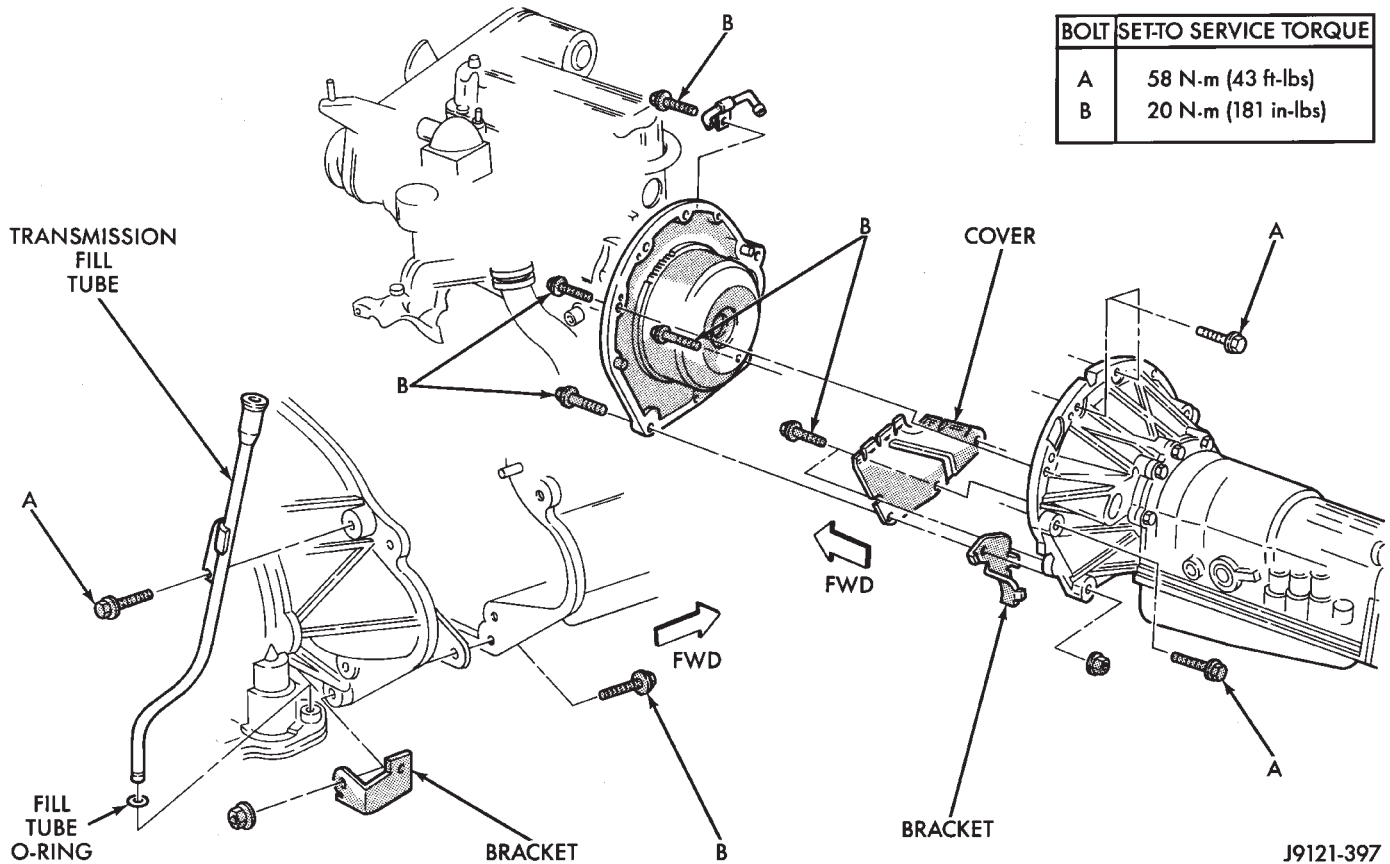

Fig. 35 Transmission Mounting
- (1) Mount transmission on transmission jack. Then secure transmission to jack with safety chains.
- (2) Lubricate converter drive hub and oil pump seal lip with transmission fluid. Then install converter. Be sure converter is fully seated in oil pump gears before proceeding. Hold converter in place with C-clamp or strap attached to converter housing.
- (3) Align and position transmission and converter on engine.
- (4) Remove clamp or strap used to hold torque converter in place.
- (5) Move transmission forward seat and it on engine. Be sure torque converter hub is fully seated.
- (6) Install converter housing-to-engine bolts (Fig. 35).
- (7) Install converter-to-drive plate bolts.
- (8) Install and connect starter motor.
- (9) Install and connect crankshaft position sensor.